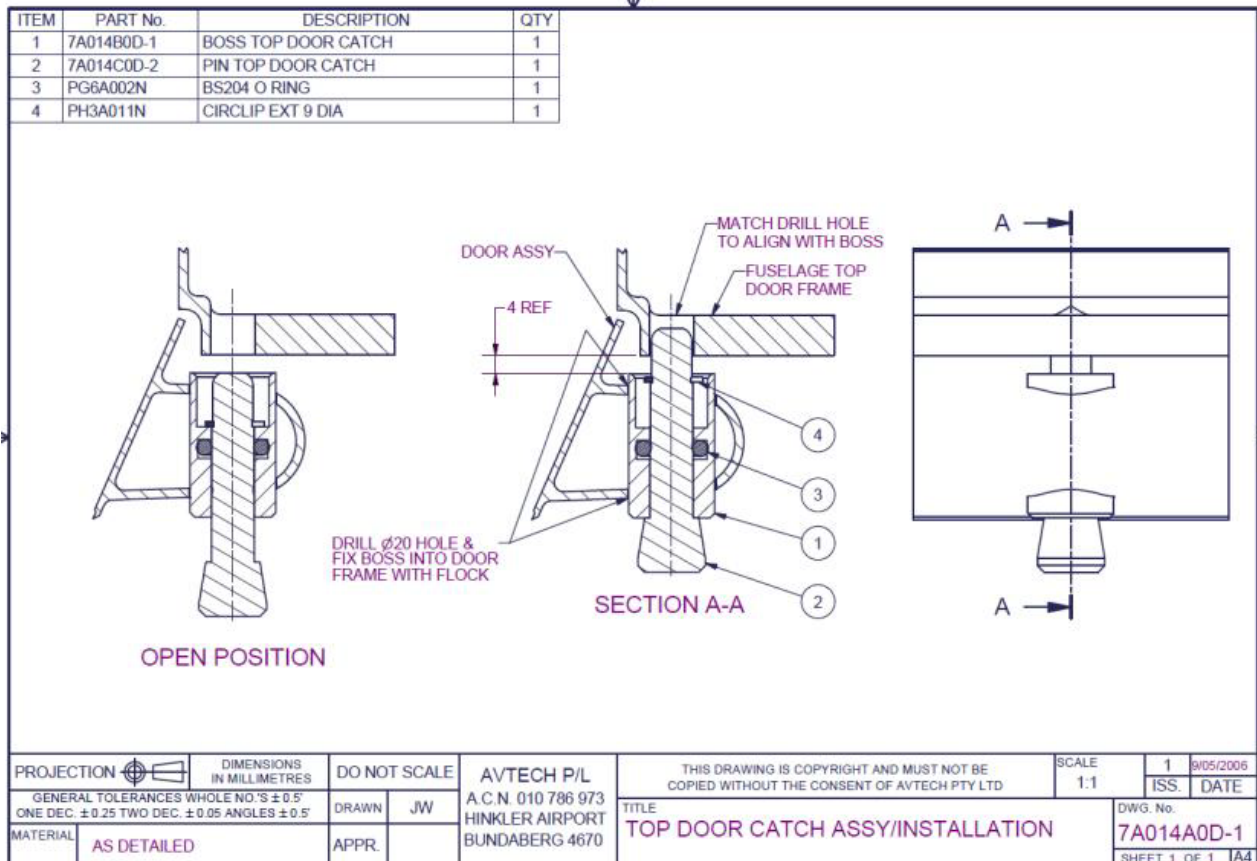

Figure 35 – Top Door Catch
- There is one main latch on each door of a simple spring type. This is complemented by a catch at the top front quadrant of each door. An assembly drawing of the latch mechanism is provided as Figure 42 below while the door-top latch is shown as Figure 35.